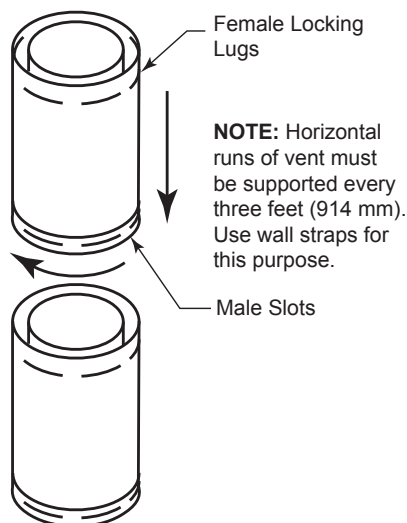

Figure 15 - Rigid Vent Pipe Connections
Twist-Lock Procedure: The female ends of the pipes and fittings have three (3) locking lugs (indentations). These lugs will slide straight into matching slots on the male end of adjacent pipes and fittings. Push the pipe sections together and twist one section clockwise approximately one-quarter turn until the sections are fully locked. *Figure 15*